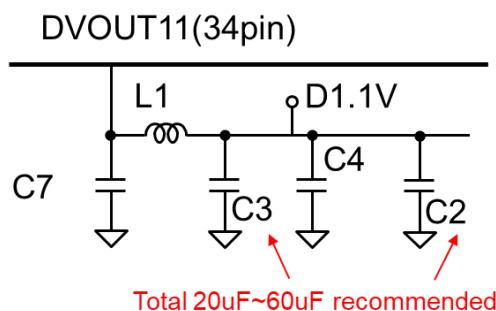

Figure 2-6 Example of an external circuit for a DC-DC converter
- Figure 2-6 shows an example of an external circuit for a DC-DC converter, and Table 2-3 shows an example of its circuit constants.